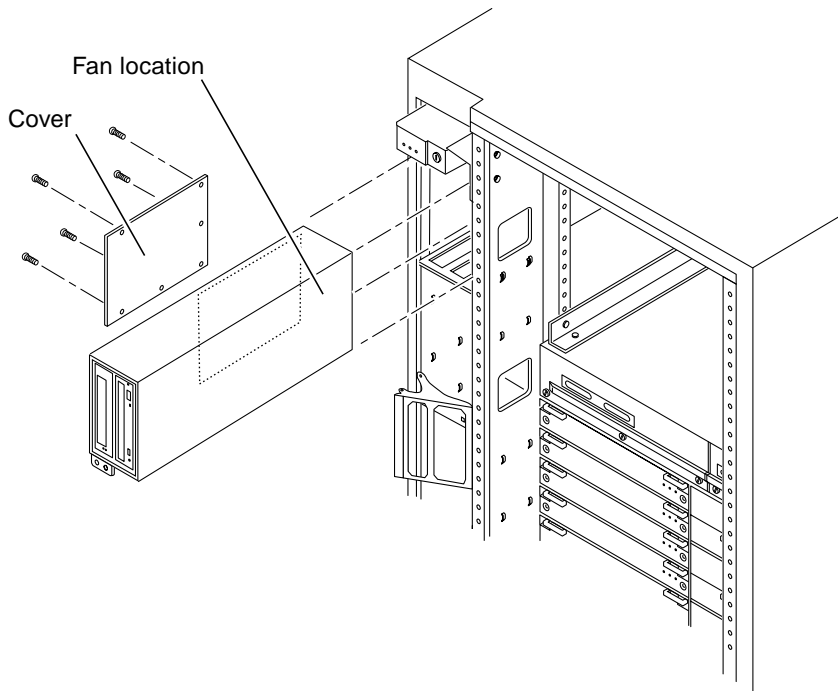

FIGURE E-4 Replacing the Fan in the Media Tray in the Enterprise 6500/5500 Systems
2. **Remove the side cover (FIGURE E-4) from the media tray.**